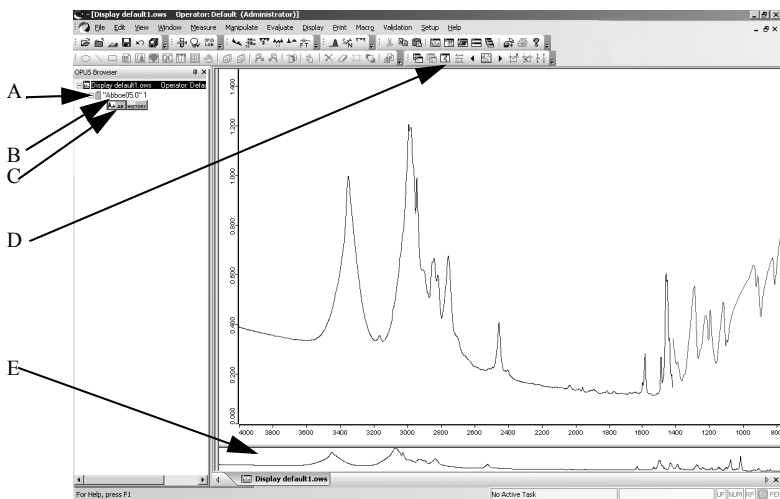

Figure 34: OPUS spectrum and browser window
The overview window (E in figure 34) shows the entire frequency range. As the spectrum is not displayed in full size within the spectrum window, you can scale the spectrum using the *Scale* icon (D).